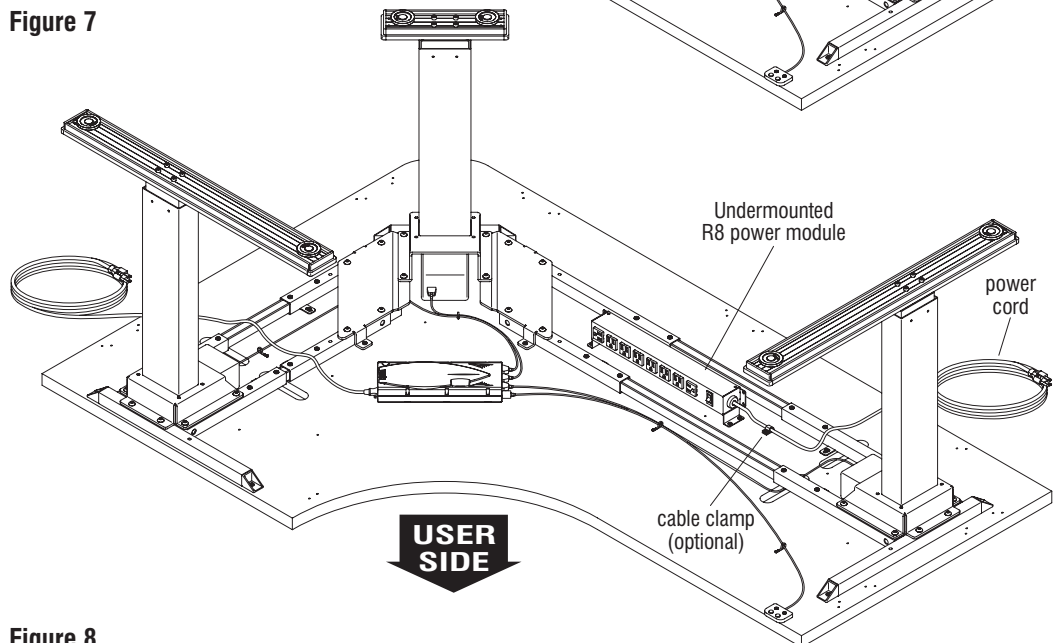

Figure 8
1. Route the power cord for the Undermounted R8 power module along the underside of the tabletop and mark the pilot hole locations where the cable clamps will be installed. Four cable clamps are provided with each R8 power module, but depending on your configuration not all clamps may be required (Figure 8).
2. Position the power cord out of the way. At each marked cable clamp location, drill a pilot hole to a depth of 3/4", making sure to not drill too deep, piercing the tabletop (Figure 8).
3. Nest the power cord inside the cable clamps. Position the cable clamps over the pilot holes and secure to the tabletop using #8 x 3/4" wood screws (Figure 8 & Detail G).